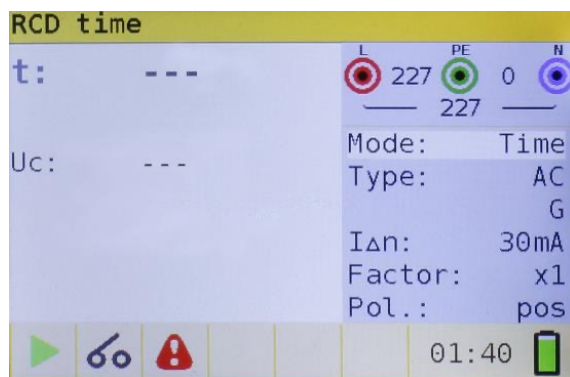

Figure 5.15: Trip-out time measurement menu
Step 3 Connect the leads to the instrument and follow the connection diagram shown in figure 5.15 (see section 5.3.6 contact voltage) to perform trip-out time measurement.
Step 3 Connect the test leads to the instrument and follow the connection diagram shown in figure 5.15 (see the chapter 5.3.6 Contact voltage) to perform trip-out current measurements.
Step 3 Connect the test leads to the instrument and follow the connection diagram shown in figure 5.15 (also see section 5.3.6 Contact voltage) to perform the RCD autotest.